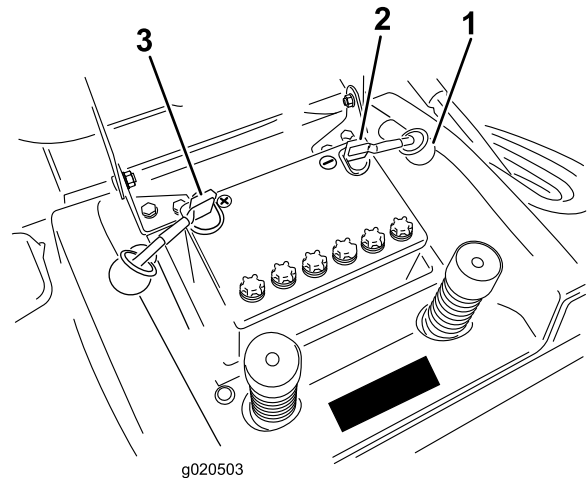

Figure 35
7. Disconnect the negative (black) ground cable from the battery post (Figure 35).
9. Disconnect the positive (red) cable from the battery post (Figure 35).
1. Place the battery into the chassis with the battery posts toward the rear of the machine (Figure 35).
3. Using the bolt and wing nut, connect the positive (red) cable to the positive (+) battery post (Figure 35). Slide the rubber cover over the battery post.
- Using the bolt and wing nut, connect the negative (black) cable to the negative (–) battery post (Figure 35). Slide the rubber cover over the battery post.